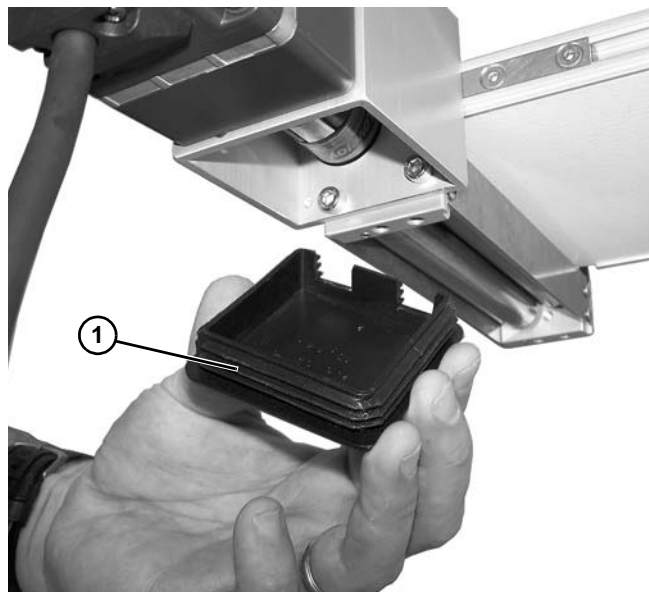

Figure 31
7. Remove bottom plastic cover (Figure 31, item 1).